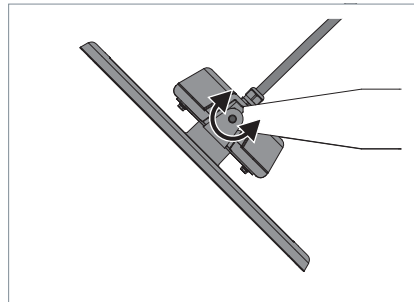

Fig. 12: Aligning the luminaire.
- ▶ Align the luminaire and tighten the two screws on the retaining brackets, see Fig. 12.